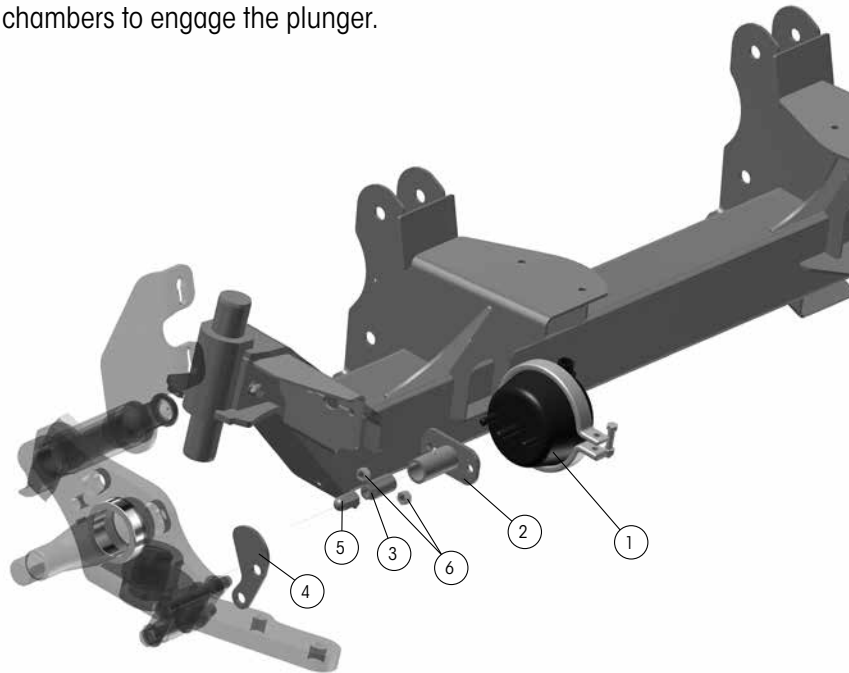

Figure 3: Lock Straight Kit Assembly*
1. Using the hex head bolts included in the kit, secure the lock straight target into place. (See items 4 and 6 of Figure 3)
2. Assemble the inner tube assembly onto the unpressurized brake chamber piston rod until it bottoms out against the brake chamber. (See items 1, 2 and 3 of Figure 3)
3. Assemble the plunger onto the rod. (See items 1 and 5, Figure 3)
4. Remove the two nuts from the brake chamber mounting studs. (See item 6, Figure 3)
- 5a. **For SC13:** Position the lock straight target (See item 4 in Figure 3) so that the plunger, when engaged, strikes the target.
7. Install the tube assembly over the plunger and refasten the two nuts onto the brake chamber. (Refer to items 2 and 3, Figure 3) (Minimum of 150 ft. lbs. or torque.)